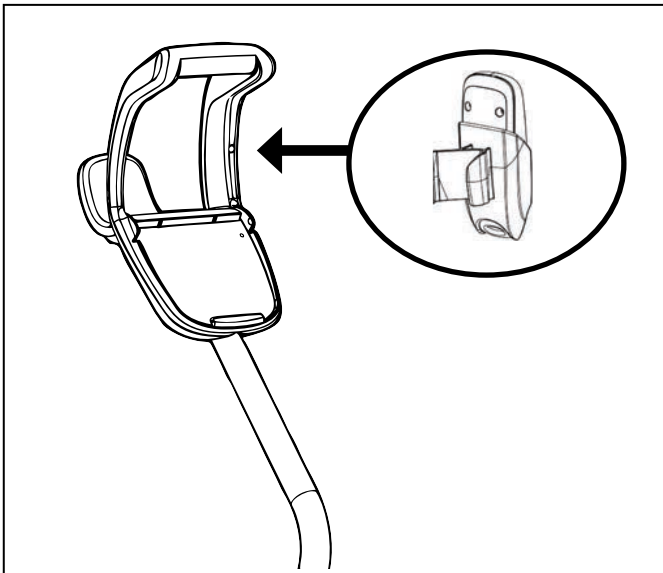

Figure 8. Snap Remote Control Holder into Place
- (9550 Sport/P955)** Locate pin on the remote control holder and align it with the receptacle on the handle of the caddy to attach the remote control unit to caddy (Figure 8).